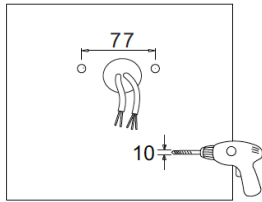

Fig. 21
1. Drill holes in the wall as shown (Fig. 21).